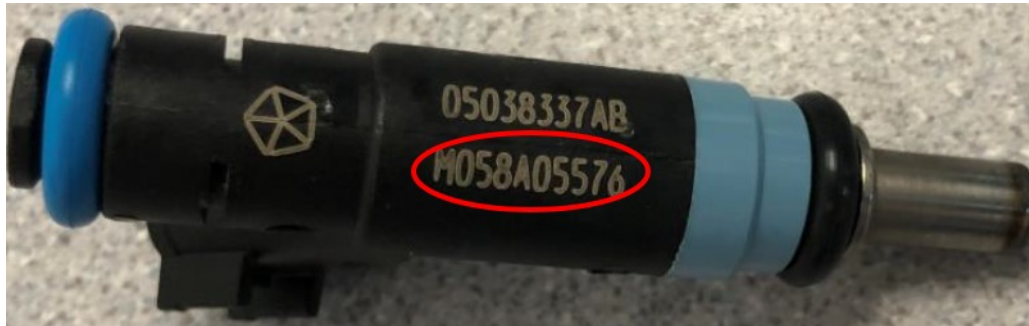

Fig. 3
5. Inspect all eight fuel injector Julian dates (Fig. 3) .
6. Were any of the fuel injector Julian dates (Fig. 3) between M058A05490 and M058A05823?